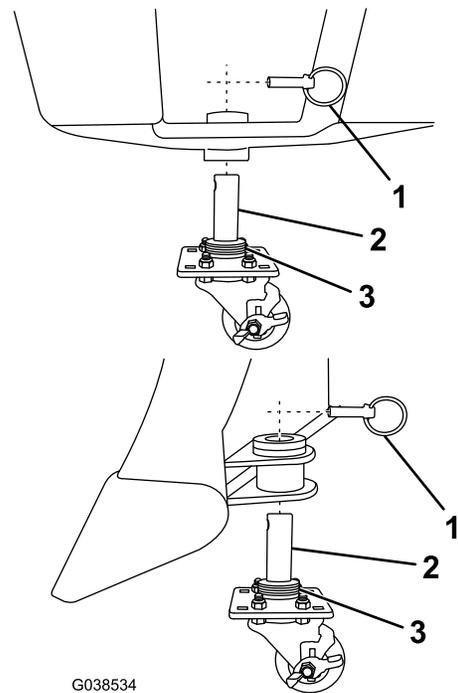

Figure 8
4. Slide the small caster shoes into the shoe holders on the plow and secure them with a quick pin (Figure 8).